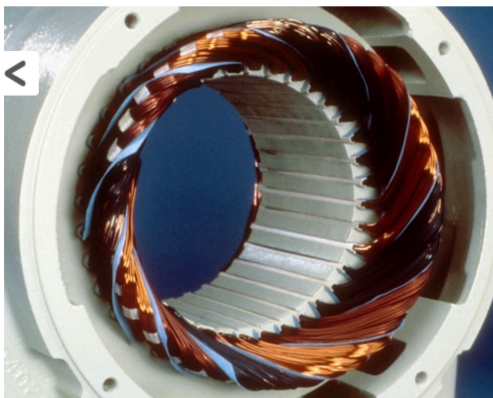

Figure 5: The dark spots are evidence of severe overheating of the coils for one phase.
The website for EASA (a trade association serving companies that repair, service and sell electric motors and generators) is a morgue for generators. There you will find an autopsy report for every type of generator failure. The picture for unbalanced voltages (Figure 5) shows stator damage caused by spot heating within its coils.
In Fortescue's model it is the negative sequence components, whose rotation is opposite to the rotation of the fundamental that cause such spot heating. The heat generated by the internal reactance caused by the opposite rotation of the negative sequence harmonics, when added to the I^2R heat loss caused by the current (I), can set up a vicious feedback loop where the heat generated by the internal reactance of the generator increases the resistance the current flowing through the circuit encounters, thereby increasing the amount of I^2R heat generated even further. As the resulting losses increase, the heating intensifies rapidly. This may lead to a condition of uncontrollable heat rise, called "thermal runaway", which results in the rapid deterioration of the winding insulation (evident in Figure 5) and ultimately the winding shorting out, and possibly catching fire.